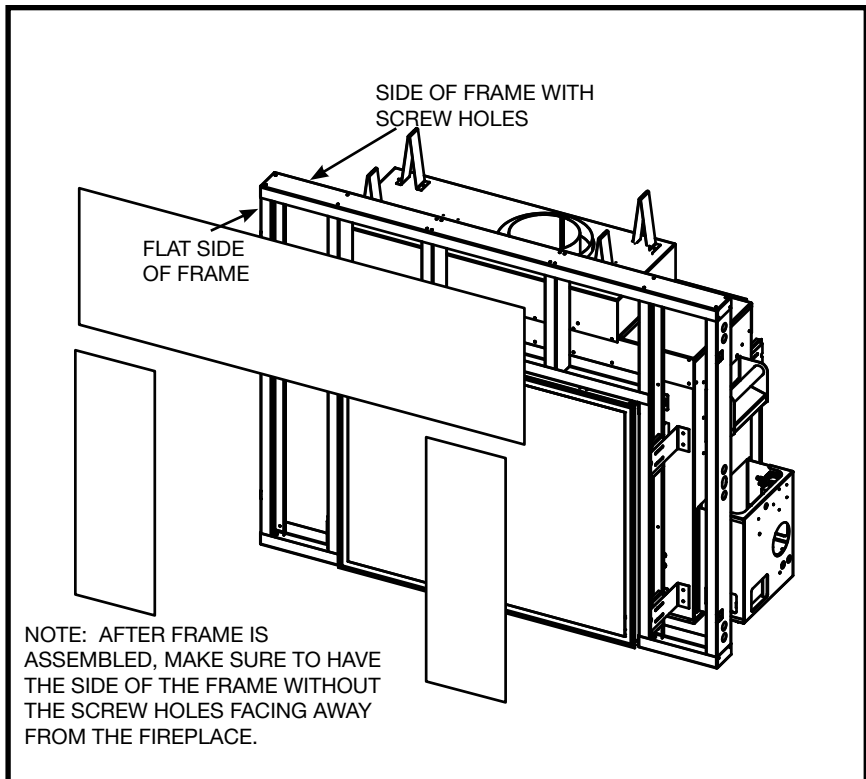

Figure 19: TC36ST With cement board.
Align the assembled frame to the unit framing brackets with the flat side facing outward into the room (Figure 19). Align the framing plates (8) to the fastening points through the access holes in the outer side studs (3).